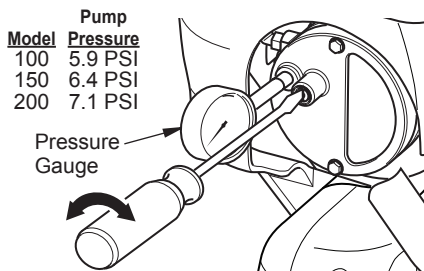

Figure 22 - Adjusting Pump Pressure
4. Adjust pressure. Turn relief valve to right to increase pressure. Turn relief valve to left to decrease pressure. See specifications correct pressure for each model (see Figure 22, page 17).